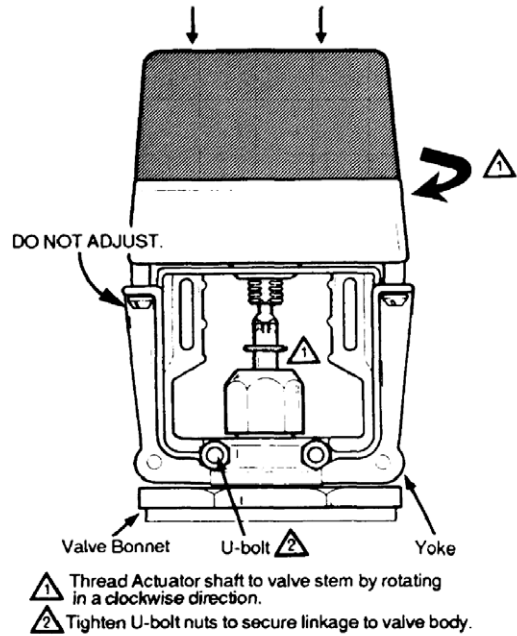

FIG. 4 — ASSEMBLY OF ML6984A TO
1. The drive shaft of the ML_984 Actuator has a 1/4-28 UNF threaded hole to link with the valve stem. Slide the yoke over the valve bonnet (Fig. 4)
3. Care should be exercised when using tools on the valve stem during tightening. (Fig.4) DO NOT damage the threads or other parts of the stem.